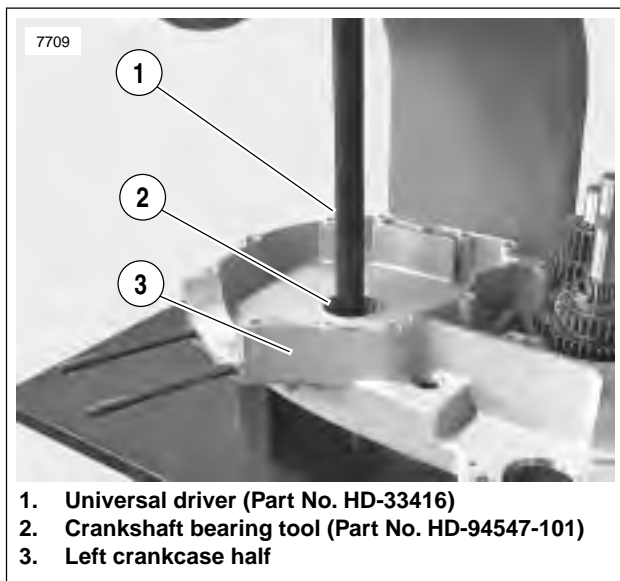

Figure 3-124. Sprocket Outer Shaft Race Removal
12. See Figure 3-124. Use CRANKSHAFT BEARING TOOL (Part No. HD-94547-101) to remove sprocket shaft outer races.